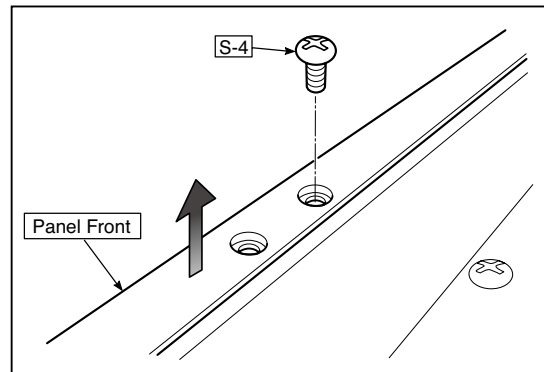

Fig.24
11) Remove the Panel Upper. (See Fig. 24)
- 1.Remove the "S-4" screws shown in the figure 24 and then remove the Panel Front.